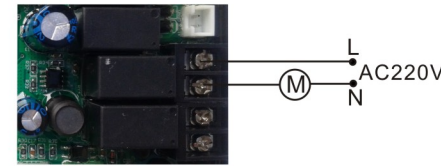

Figure 7
D. Working electricity less than 5A air pump wiring as figure 7 shows: